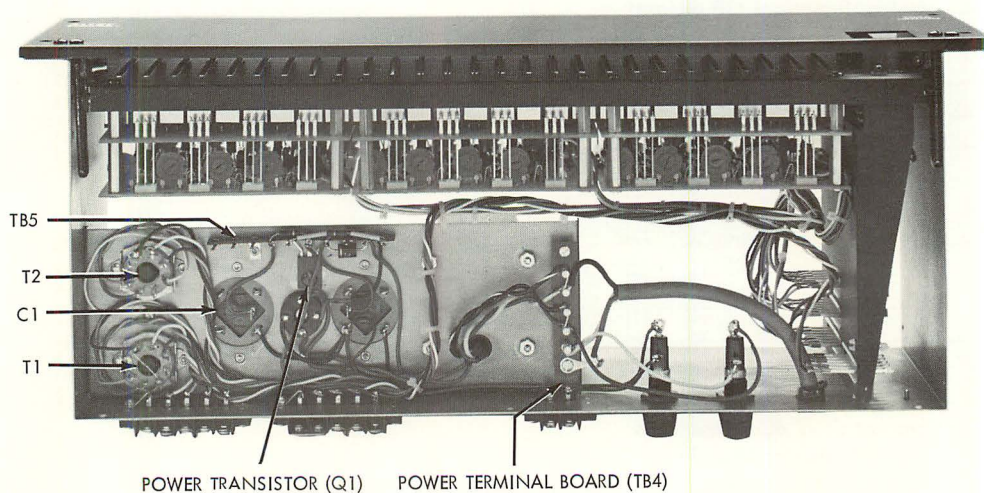
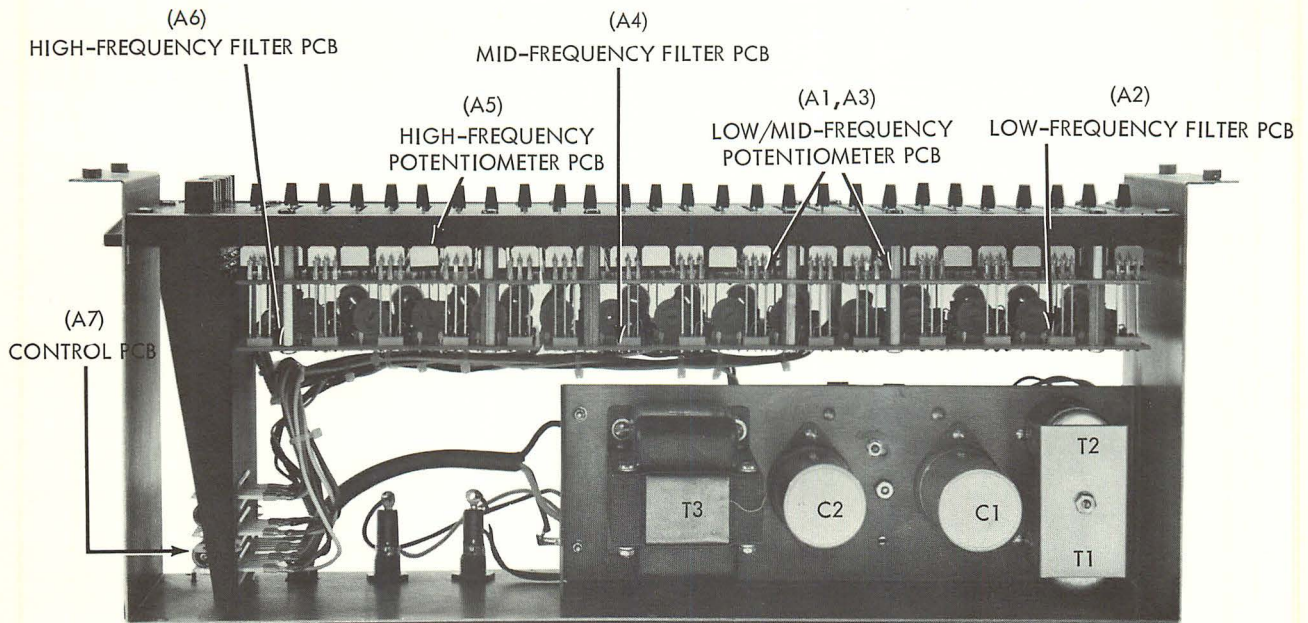

Figure 3. Bottom View 9860A, Cover Removed
Figure 10. Top View 9860A, Cover Removed
- Step 3. Remove strap "A" connecting terminals 2 and 3, and remove strap "B" connecting terminals 4 and 5; then solder strap "C" to terminals 3 and 4 (see Figures 3 and 4).
Remove seven screws securing each cover and lift off cover. Figure 3 shows interior with bottom cover removed and Figure 10 shows interior with top cover removed.
The input (T1) and output (T2) transformers are plug-in modules located within the chassis (see Figure 10). Use the following procedure to replace either transformer:
The power transistor (Q1) is located on the bottom chassis subassembly (see Figures 3 and 11). Use the following procedure to replace it:
- Step 5. Solder Q1 leads to terminals 4, 5 and 6 of TB5 in accordance with lead configuration shown in Figures 3 and 11.
Three potentiometer PCB's, three filter PCB's and one control PCB are located within the chassis (see Figures 10 and 11). Repair or component replacement for any PCB should be made only at factory service.
- Step 3. Complete procedure for Control Panel Assembly Removal given on page 10. Remove Control PCB assembly (see Figure 10 and procedure for Control PCB Replacement given on page 11).
- Step 6. Install 15095A transformers in sockets for T1 and T2 (see Figure 10 and procedure for Input and Output Transformer Replacement given on page 10).
- Step 5. Replace transformer T1 with 8080A (see Figure 10 and procedure for Input and Output Transformer Replacement, page 10).